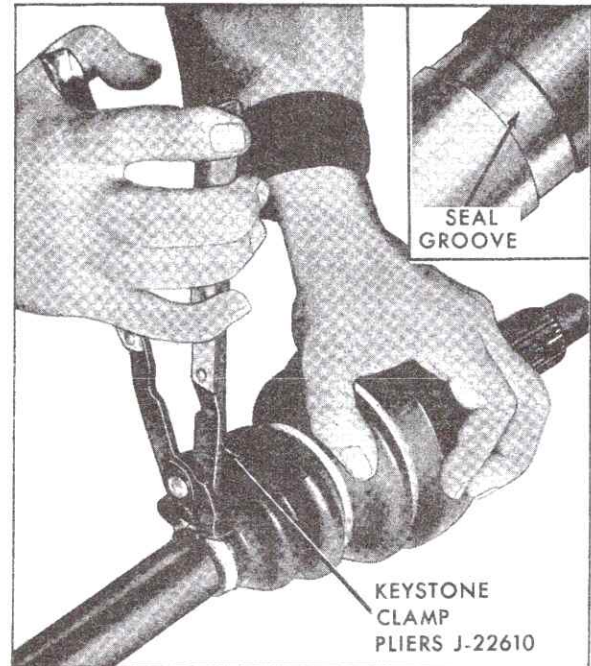

Fig. 3-55 Positioning Seal on Axle Shaft
6. Position seal in groove on axle shaft and secure small keystone clamp as shown in Fig. 3-55.
11. Install large keystone clamp over seal and secure as shown in Fig. 3-55.
16. Seat seal in groove on axle shaft, and secure keystone clamps as shown in Fig. 3-55.